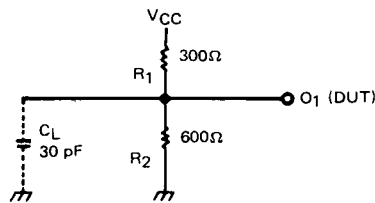

FIGURE 1
- NOTES: ① Output Load: See Fig. 1.
② Input Waveform: 0.0V for low level and 3.0V for high level, less than 10ns for both rise and fall times.
③ Measurement References: 1.5V for both inputs and outputs.
④ C_L in Fig. 1 includes jig and probe stray capacitances.